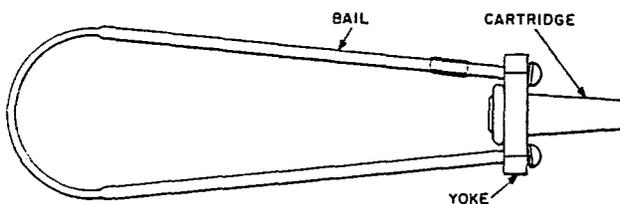

Fig. 6—109 Wirewise
4.01 The Wirewise consists of a cartridge, a yoke, and a bail (Fig. 6). The cartridge contains a spring-loaded two-jaw chuck which grips the wire. It cannot be reused.